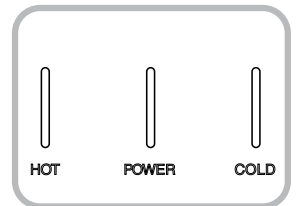

Fig.3
5. Turn **ON** the hot water switch, wait a couple of minutes and turn **ON** the cold water switch. Allow the unit to reach the minimum cold and hot water temperatures. This will take approximately 45 minutes and the indicator lights will turn **OFF**. (Fig. 3)